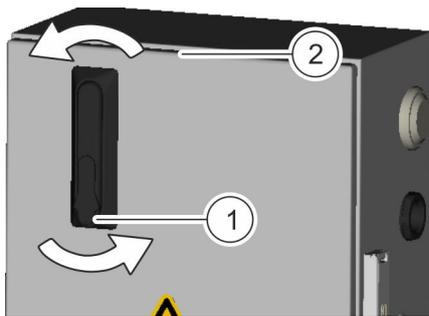

Fig. 20: Opening the enclosure door
2. ➤ Open the enclosure door. To do this, first fold out the swivel lever (Fig. 20/1) and then rotate it anti-clockwise (Fig. 20/2).